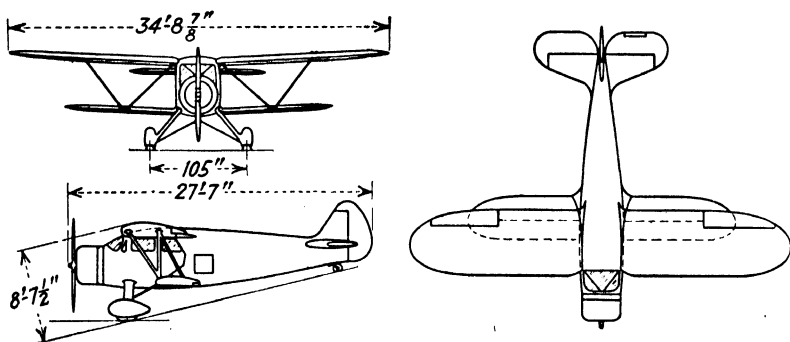

Fig. 169.—The Waco Model C. (Courtesy of Aviation.)
5. Find the gross weight and the power loading of the Waco model C, powered by a Jacobs L-6 7 cylinder radial engine (see Figs. 169 and 170).